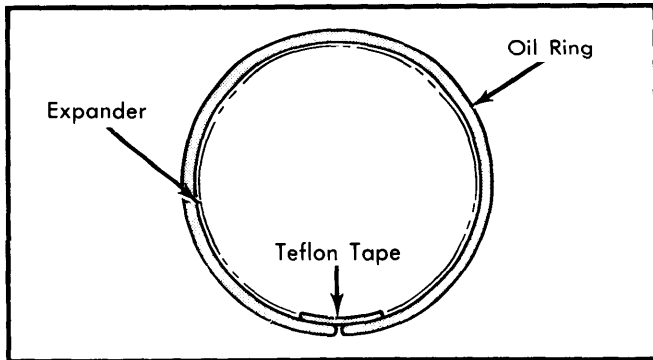

Fig. 11 Oil Ring Teflon Location
4) Install rings with "UP" side toward top of piston. On expander oil ring, install a piece of Teflon tape between piston and expander over gap area. See Fig. 11.